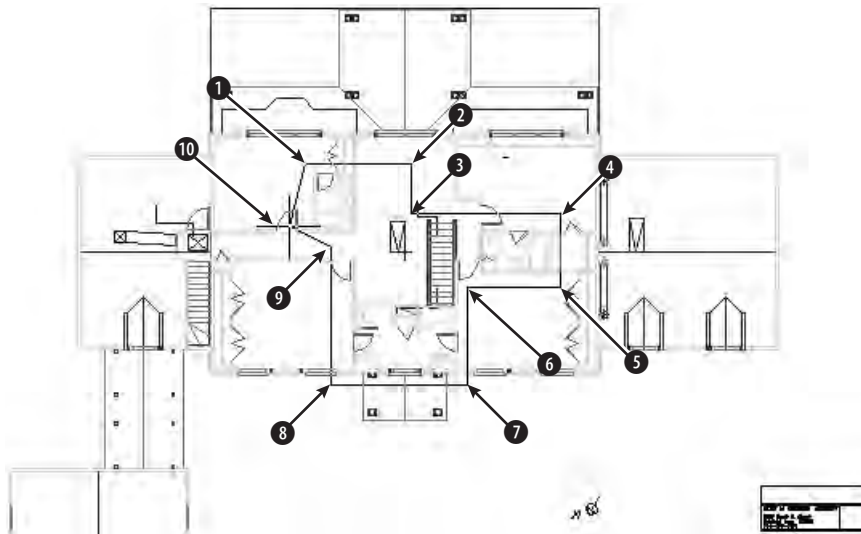

Figure 19-11: Picking a polygonal boundary to clip an xref
5. Open ab19-02.dwg from your AutoCAD Bible folder. This drawing has an attached xref of a house plan and a nested xref of a title block, as shown in Figure 19-11.
Select objects: *Pick anywhere on the xref in Figure 19-11.*
Specify first point: Pick ❶ in Figure 19-11. It might help to turn off OSNAP if it is on.